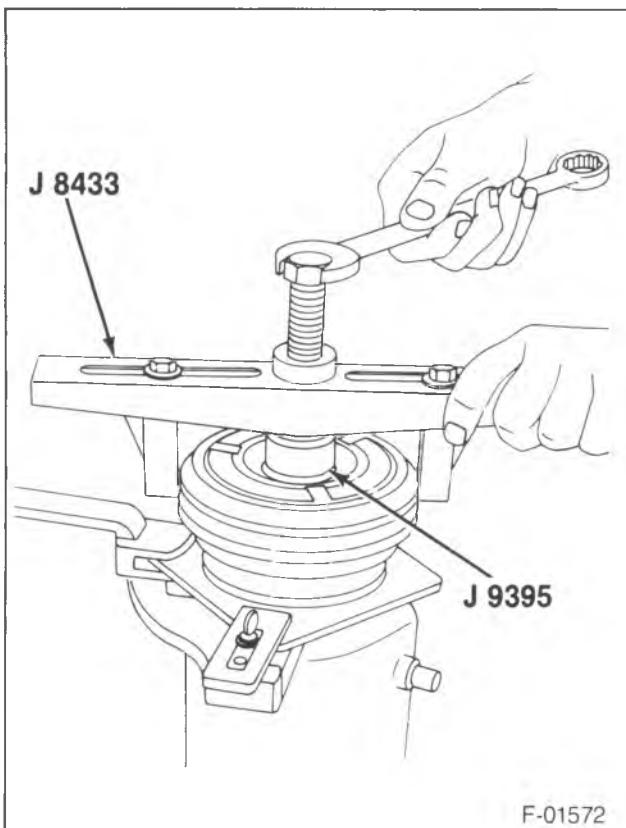

Figure 7—Removing the Pulley and Bearing
- Install J 9395 over the end of the compressor shaft (38) (figure 7).